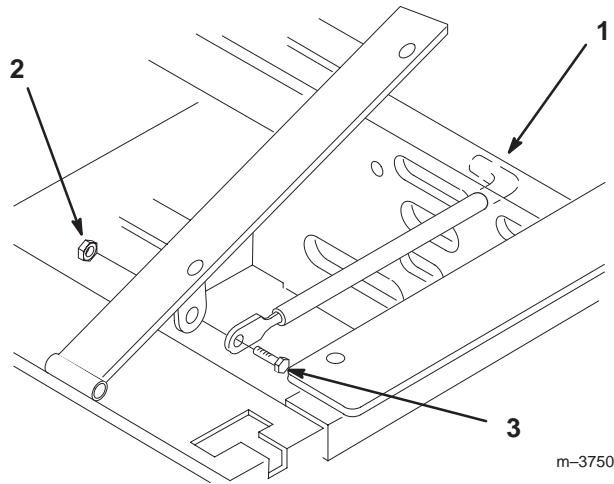

Figure 3
1. Tilt seat up. Remove the locknut (5/16 inch) from bolt attaching seat retaining rod to seat frame (Fig. 3).
2. Remove retaining rod from seat and insert the **L** shaped end of the rod into the hole directly above the left-side hydraulic pump (Fig. 3).
- Place the seat retaining rod to the outside of the mounting tab of the seat frame and secure with a bolt (5/16 x 1 inch) bolt and locknut 5/16 inch (Fig. 3).